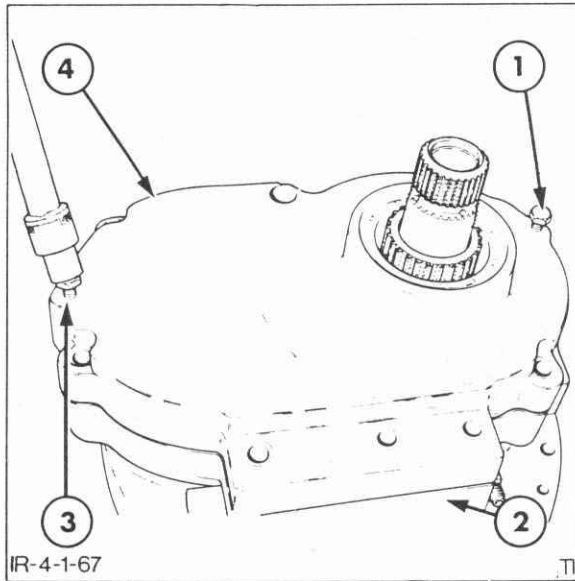

Figure 4-170
1. Install the two jacking bolts, previously used to remove the oil distributor assembly from the transmission case, into the cover bolt holes, Figure 4-170. Tighten the two bolts equally until the front cover is released from the housing. Remove the two bolts.